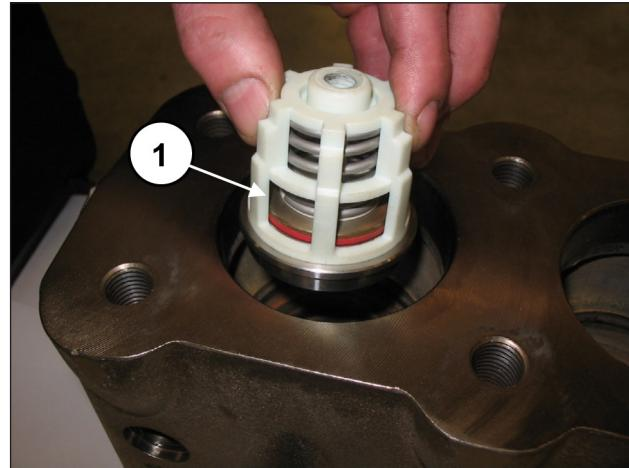
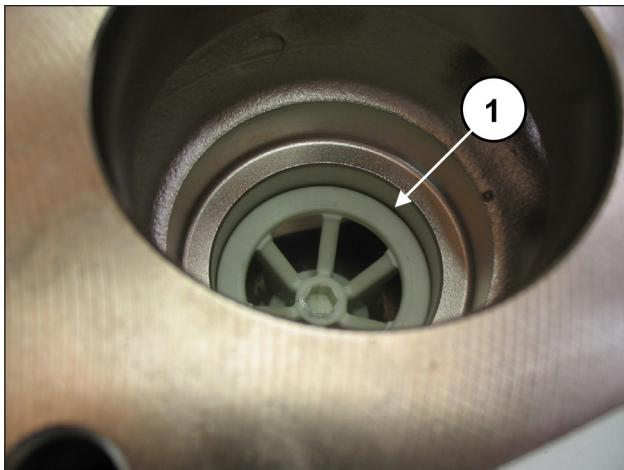

Fig. 121
Fig. 122
Insert the suction-outlet valve unit (pos. ①, Fig. 121) and then the spacer (pos. ①, Fig. 122).
The complete valve unit must be driven fully home and should appear as shown in pos. ①, Fig. 122.